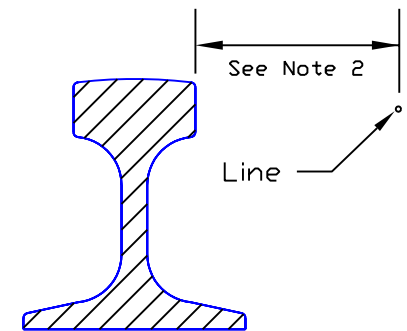

Fig. 2
- 2) Stretch a line (Chalk Line or twine e.g.) between Point 1 and Point 3 (22'). Measure the distance between the inside face of the rail head at Point 2 to the line (See Fig. 2). Always take these measurements at the inside face of the rail on the high side of the curve and round to the nearest  $\frac{1}{8}$ ".